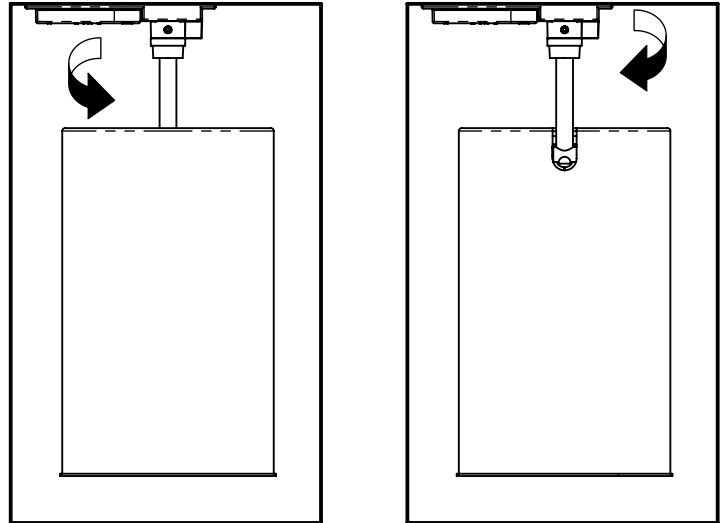

FIG 12. TURN FIXTURE LEFT OR RIGHT TO SET THE HORIZONTAL FOCUS
- *FOR HORIZONTAL AIMING*, HOLD THE LAMP HOUSING AND TURN IT LEFT OR RIGHT UNTIL YOU ARCHIEVE. YOUR DESIRED ORIENTATION (FIG. 12)